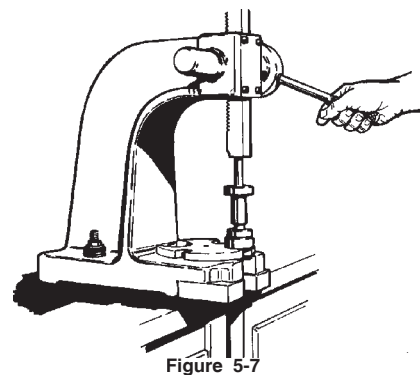

Figure 5-7
1. Using an arbor press, install the bearings on the shaft prior to installing the shaft into the pedestal. A steel "donut" with the proper inside diameter and outside diameter, Refer to Chart 1, should be used between the arbor face plate and the lower bearing to insure proper installation and to prevent bearing damage. The bearings must seat against the shoulder for proper alignment. Refer to Figure 5-7. *Also refer to Alternate bearing installation